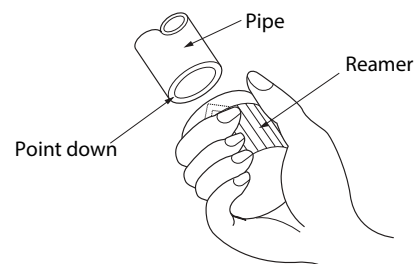

**Fig. 6.4**
1. Make sure that the pipe is cut at a perfect 90° angle. Refer to Fig. 6.4 for examples of bad cuts